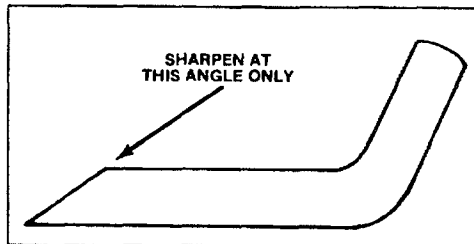

Figure 22
6. **SHARPENING BLADE** — Using a file, sharpen top side of blade and maintain original cutting angle (Fig. 22). The blade will remain balanced if same amount of material is removed from both cutting edges.